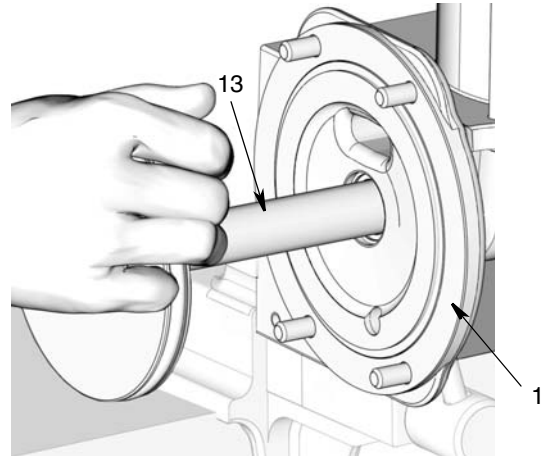

FIG. 53
- f. Apply a thin layer of grease around and along the entire length of the piston rod (13). Gently push the piston rod into the pump base (1) using a push and turn motion to work the rod through the previously installed, seals and spacers (FIG. 53).